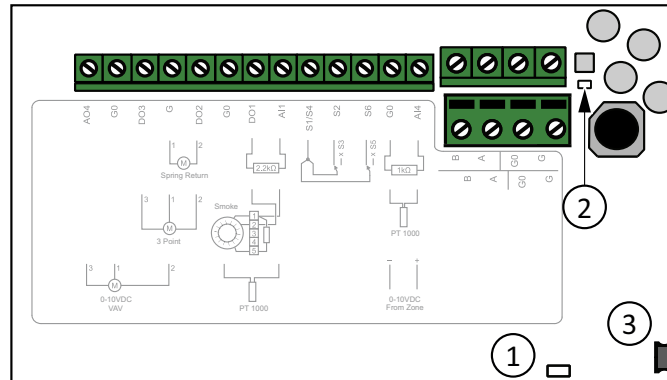

Figure 4 Inside the SCS-S2. 1 = LED light for status, 2 = LED light for communication, 3 = Push-button
- Press the push button on the damper units, see *Figure 4*. The LED lights up in magenta.
When identified, LED light 1 in the unit will start blinking, see *Figure 4*.
- LED light 1 in the unit will start blinking for approx. five (5) seconds, see *Figure 4*.
- Press the button in the unit, see *Figure 4*
It's possible to reset the device to factory settings via the button, see Figure 4.
1. Push and hold the button for 10 seconds. LED 1 (Figure 4) will turn red.